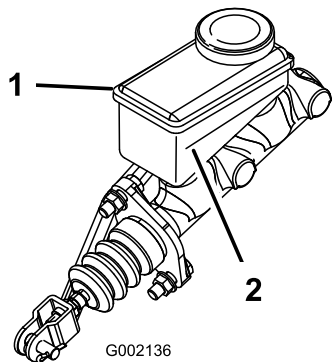

Figure 44
3. Look at the side of the reservoir. The level should be above the Minimum line (Figure 44). If the fluid level is low, clean the area around the cap, remove the cap, and fill the reservoir to above the Minimum line. Do not overfill.